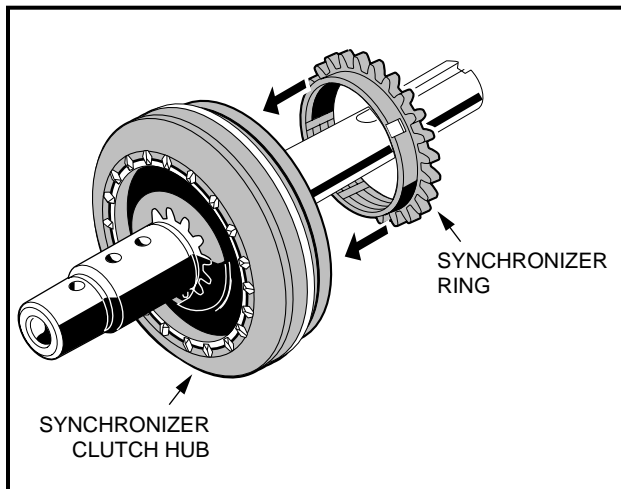

Figure 16-60 Synchro. Ring
5. On the long end of the shaft, install the synchronizer ring (45) (**Figure 16-42, Page 16-18**) with the smooth collar of the ring towards the clutch hub. Make sure the three notches in the collar mate with the synchronizer inserts in the synchronizer sleeve as shown (**Figure 16-60, Page 16-25**).